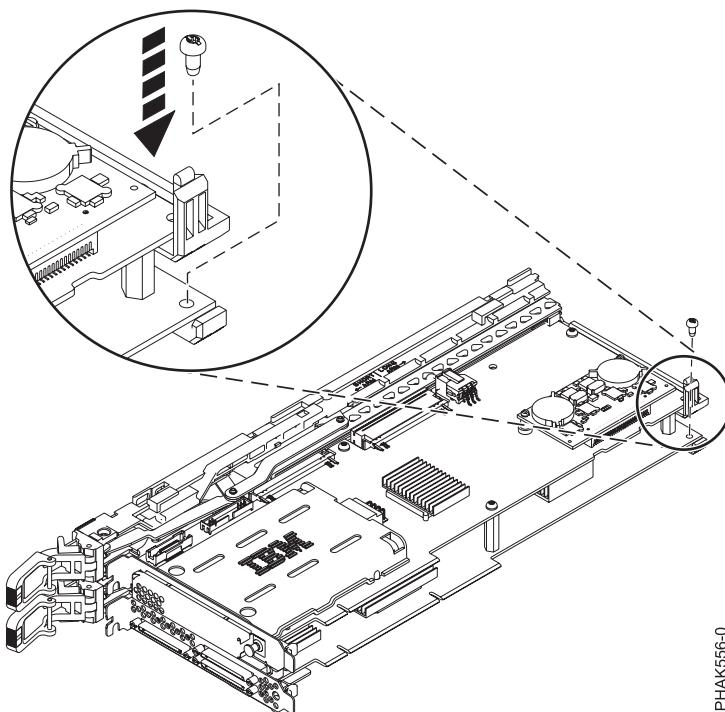

Figure 54. Securing the lower, rear arm of the cassette assembly
5. Secure the lower, rear arm of the cassette assembly to the rear end of the double-wide adapter using the small screw. See Figure 54.